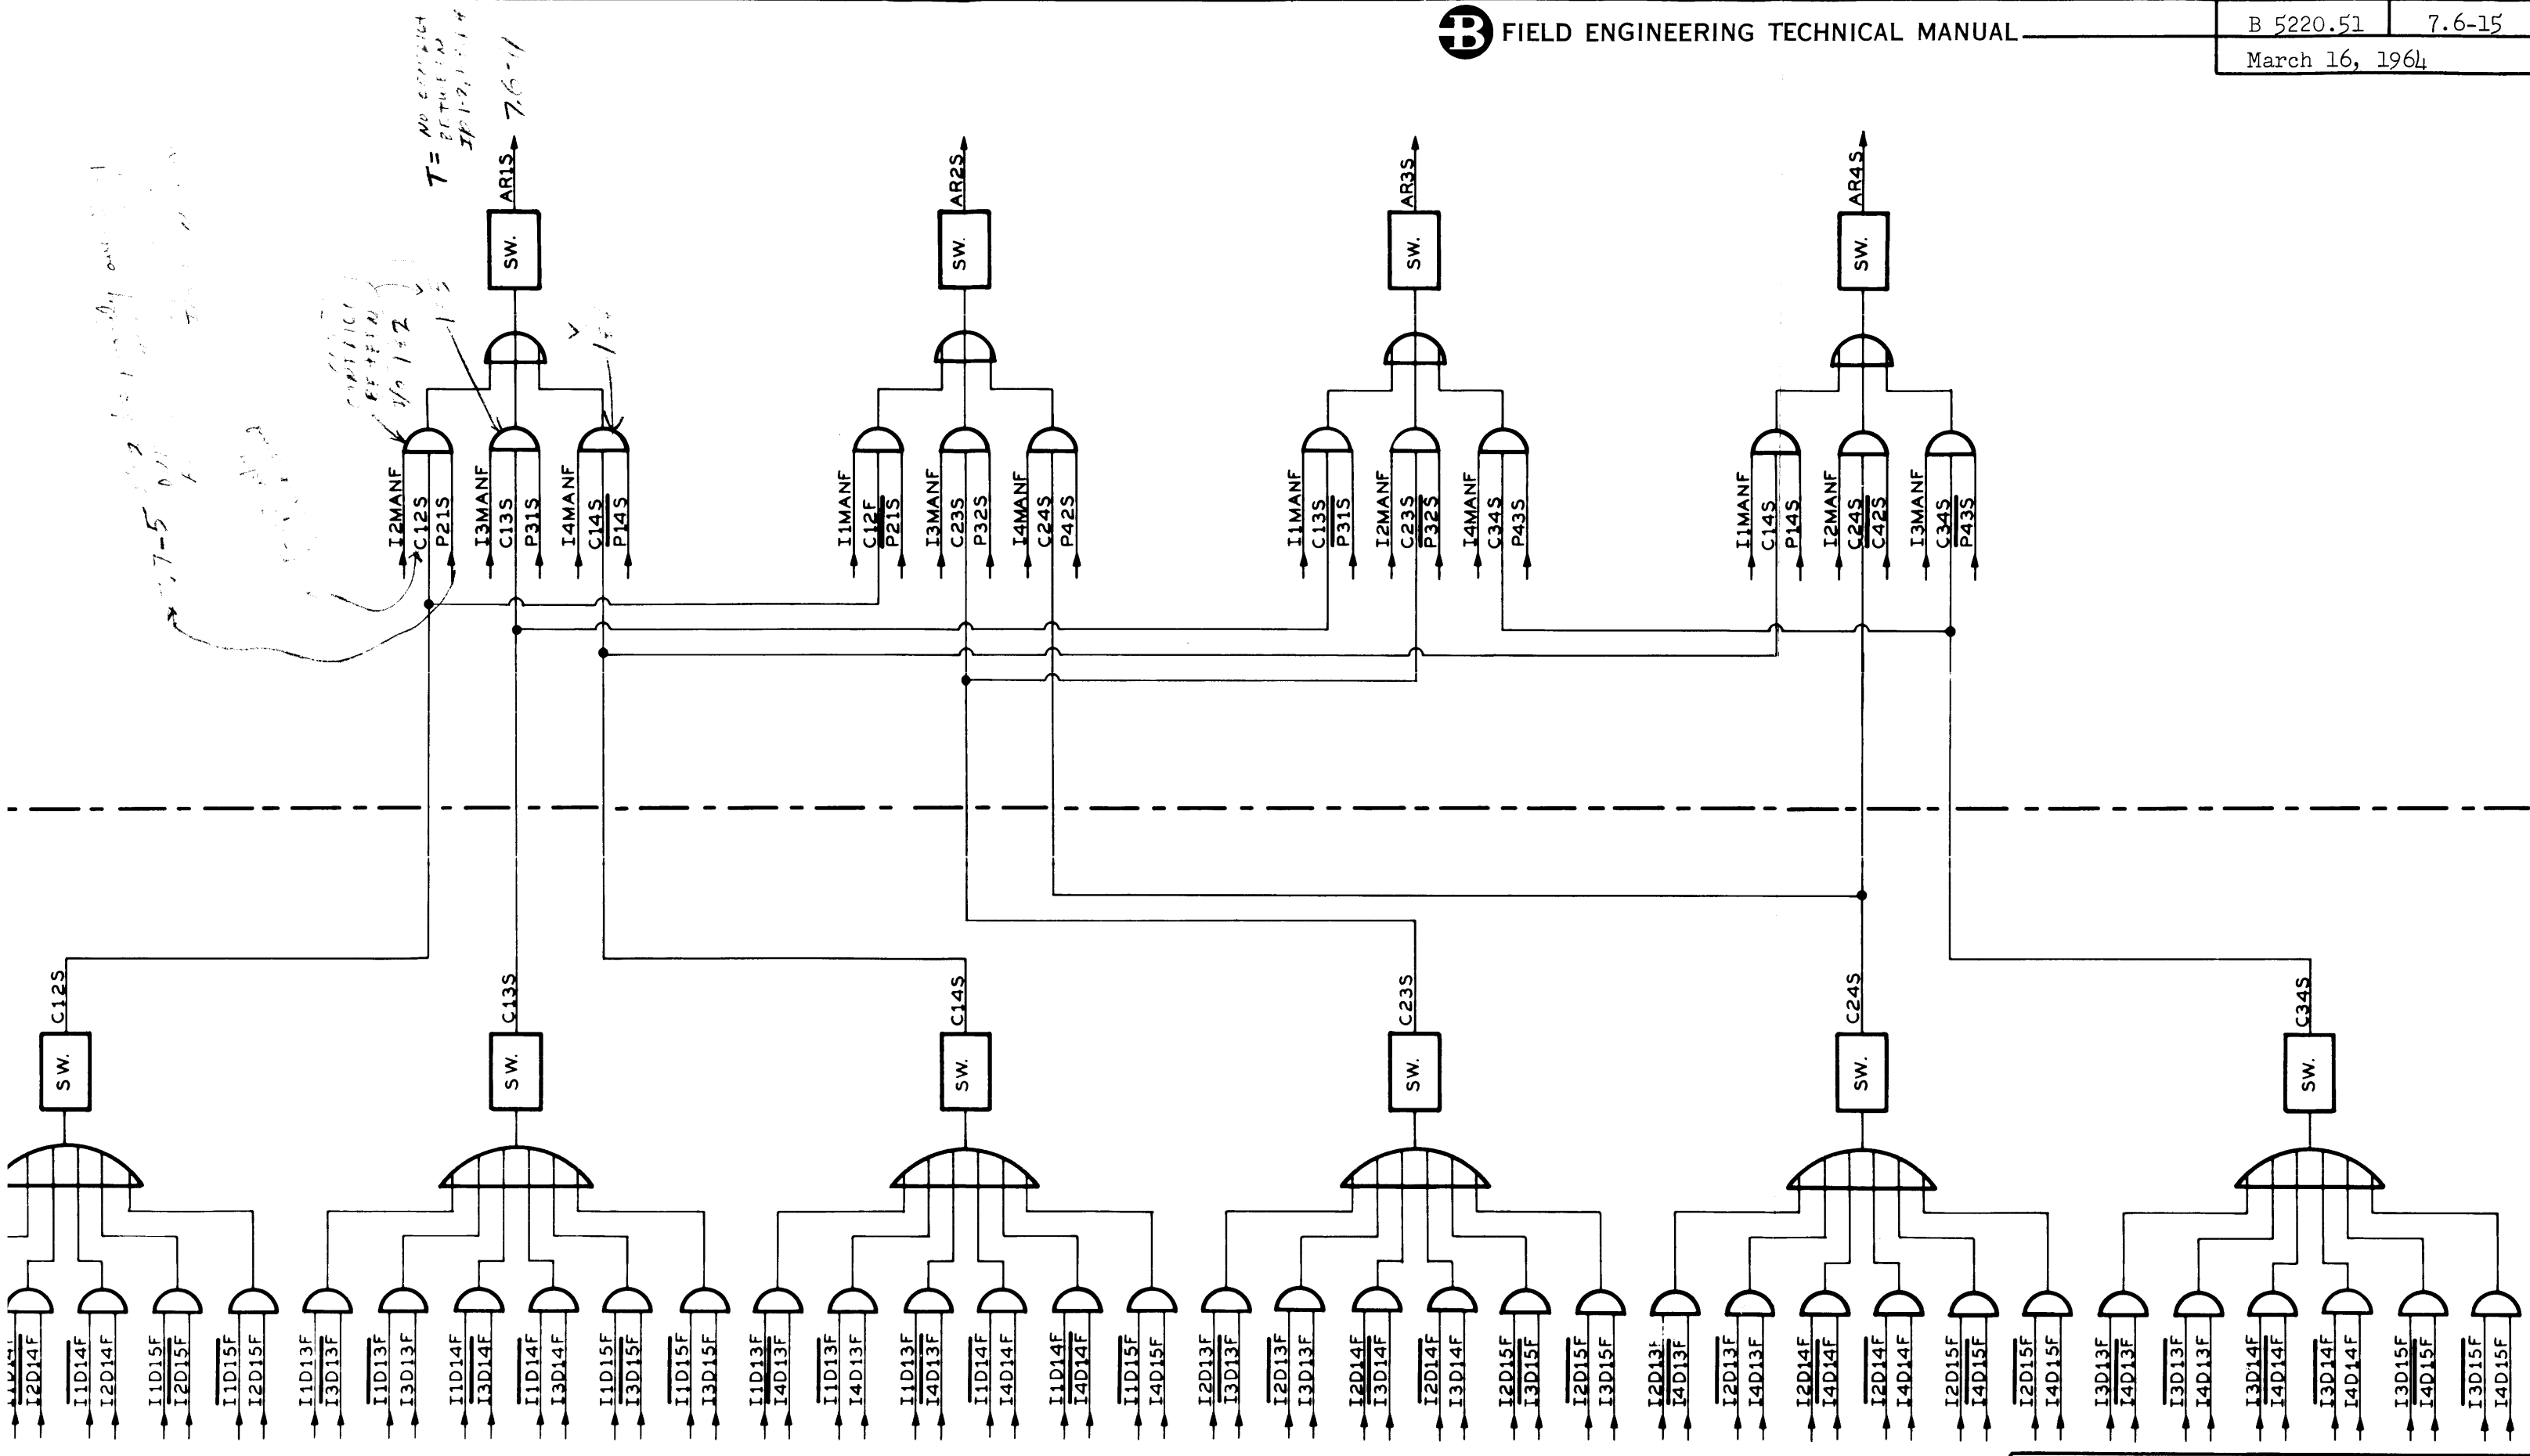

FIGURE 7.6-5
There are six (6) possible combinations of Memory Module Address Conflicts as illustrated in the Primary Logic of Figure 7.6-5. These are between I/O-1 and I/O-2; I/O-1 and I/O-3; I/O-1 and I/O-4; I/O-2 and I/O-3; I/O-2 and I/O-4; and I/O-3 and I/O-4.
Refer to Figure 7.6-5 for Memory Request Conflict Levels.